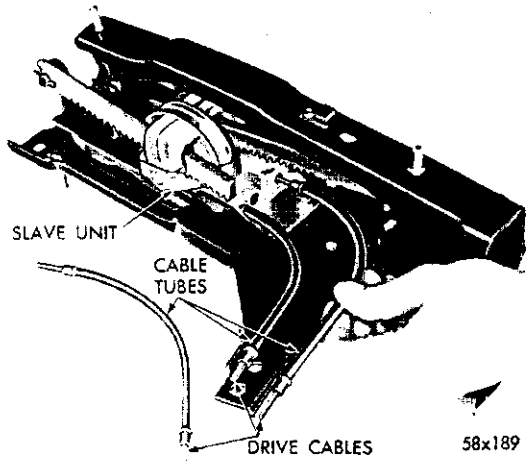

Fig. 102—Installing the Cable Tubes in the Slave Unit
(1) Place the three left cable tubes into the left slave unit (Fig. 102).
(2) With the shortest tube on the inside and longest on the outside, install the flexible cables in the